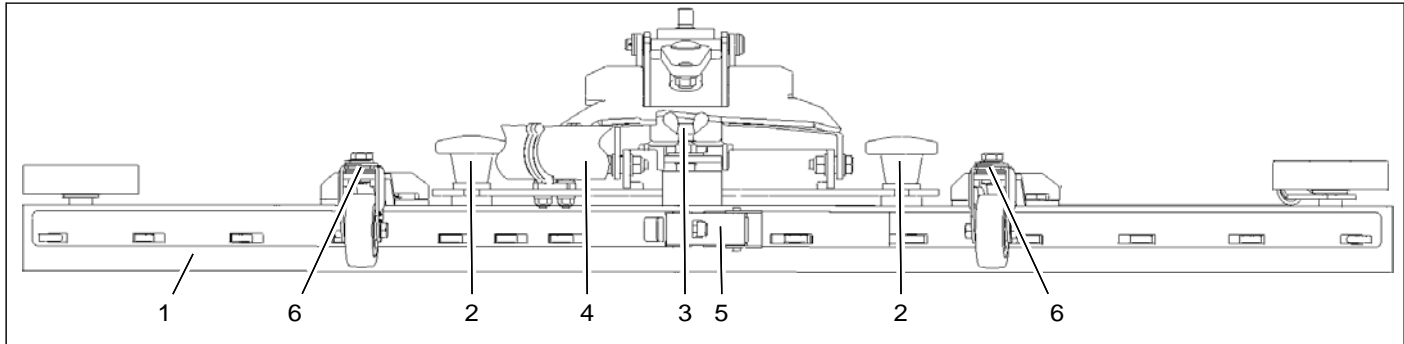

Fig.12
Check the squeegee (Fig. 12/1) daily and clean as necessary. To clean it lift the squeegee out, pull off the suction hose (Fig. 12/4), loosen the two star-shaped knobs (Fig. 12/2) and remove the squeegee.
Check the inner and outer squeegee blades on the squeegee (Fig. 12/1) weekly for signs of wear. The squeegee blades can be re-used by turning them.
3. Unlock the fastening device (Fig. 12/ 5) and remove the outer squeegee blade. Turn the squeegee blade or install a new one, as necessary. Change the inner squeegee blade in the same way.